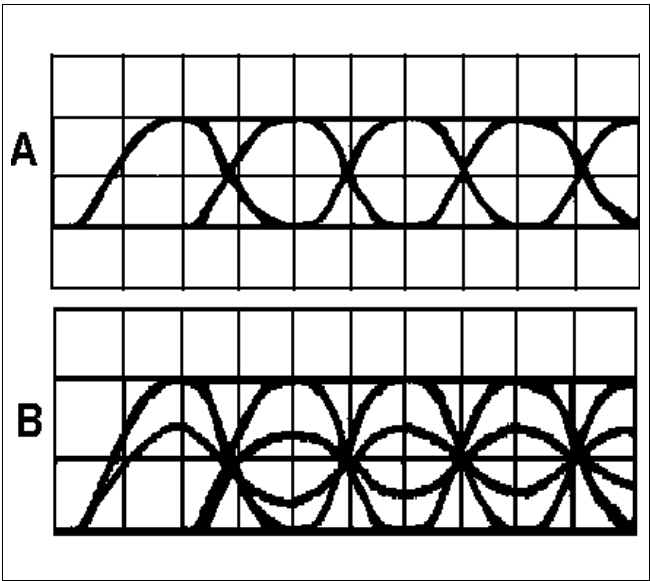

Figure 2 - High Speed Data Eye Pattern
Input a companion radio high speed dotting data TX output in the antenna port at 25 milliwatts. Verify an optimum receive eye pattern on the VOL/SQ HI line at J705-3. A typical Eye Pattern is shown in Figure 2(A) for 25 kHz channel spacing. For 12.5 kHz channel spacing see Figure 2(B).